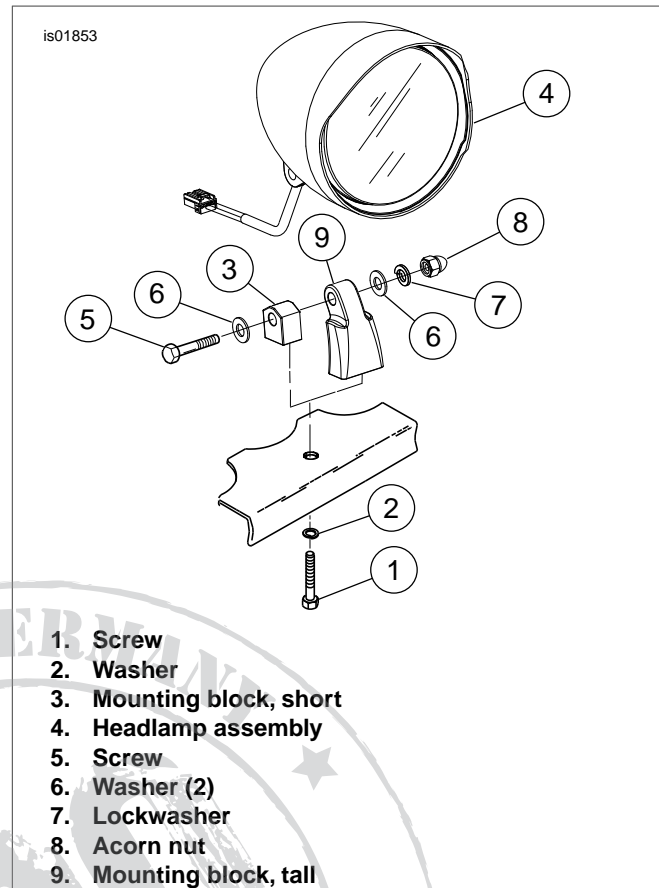

Figure 8. Billet Headlamp Assembly with Short/Tall Mounts
1. *Softail and 1994-2005 FXDWG Models:* See Figure 8. Loosely install vertical adjusting screw (1) from kit and washer (2) previously saved.
2. *2000-Later FXSTD Models:* See Figure 8. Loosely install vertical adjusting screw (1) and washer (2) previously saved.
1. See Table 1 and Figure 8. Loosely install vertical adjusting screw (1) and washer (2) previously saved.
2. Loosely install mounting block (9) and billet headlamp (4) using horizontal adjusting screw (5), washers (6), lockwasher (7), and acorn nut (8).